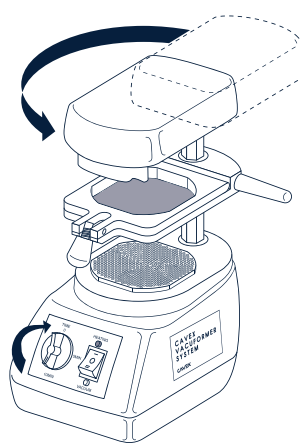

Fig. 5
5. Rotate the heating element to the front and switch it on by setting the timer for approx. 5 minutes\*\* (Fig. 5).